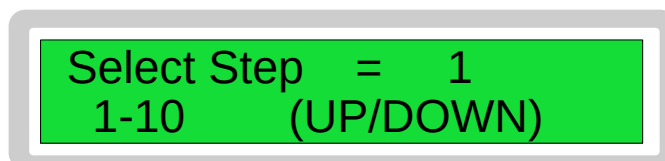

Figure 5: QuadTech Guardian 6000 Select Step
3.4.1. Press the **Prog** key, the screen will appear as in Figure 5.
From the Select Step screen (Figure 5), use the up and down arrow keys to toggle between test steps.